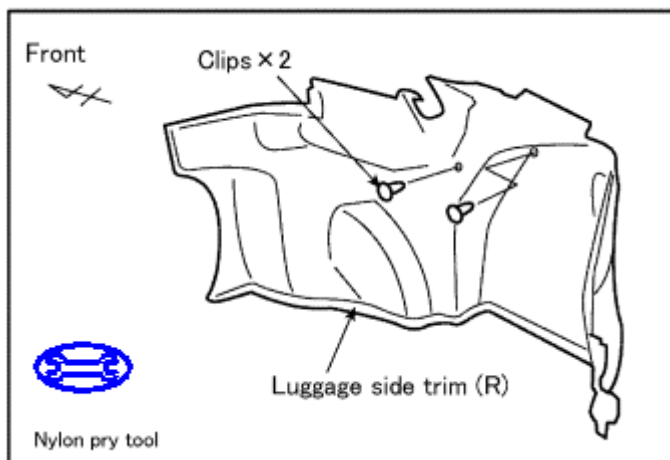

Figure J1
- ➡ 1. Remove two clips using nylon pry tool. (Figure J1)
2. Remove the luggage side trim. (Figure J1)